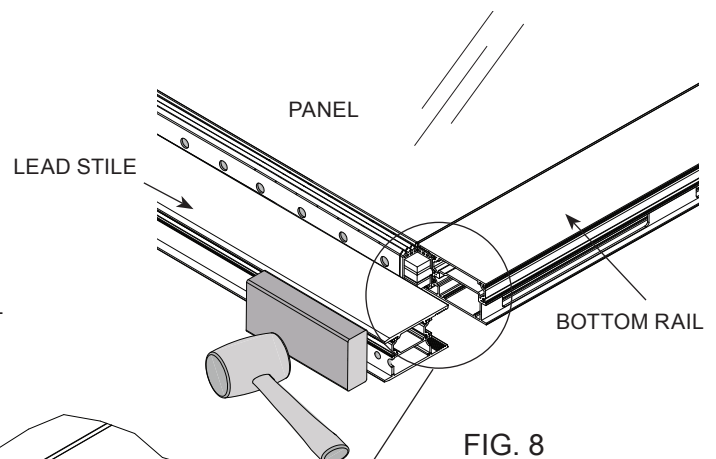

FIG. 8
6. Install the door stile and interlock. (FIG. 8)